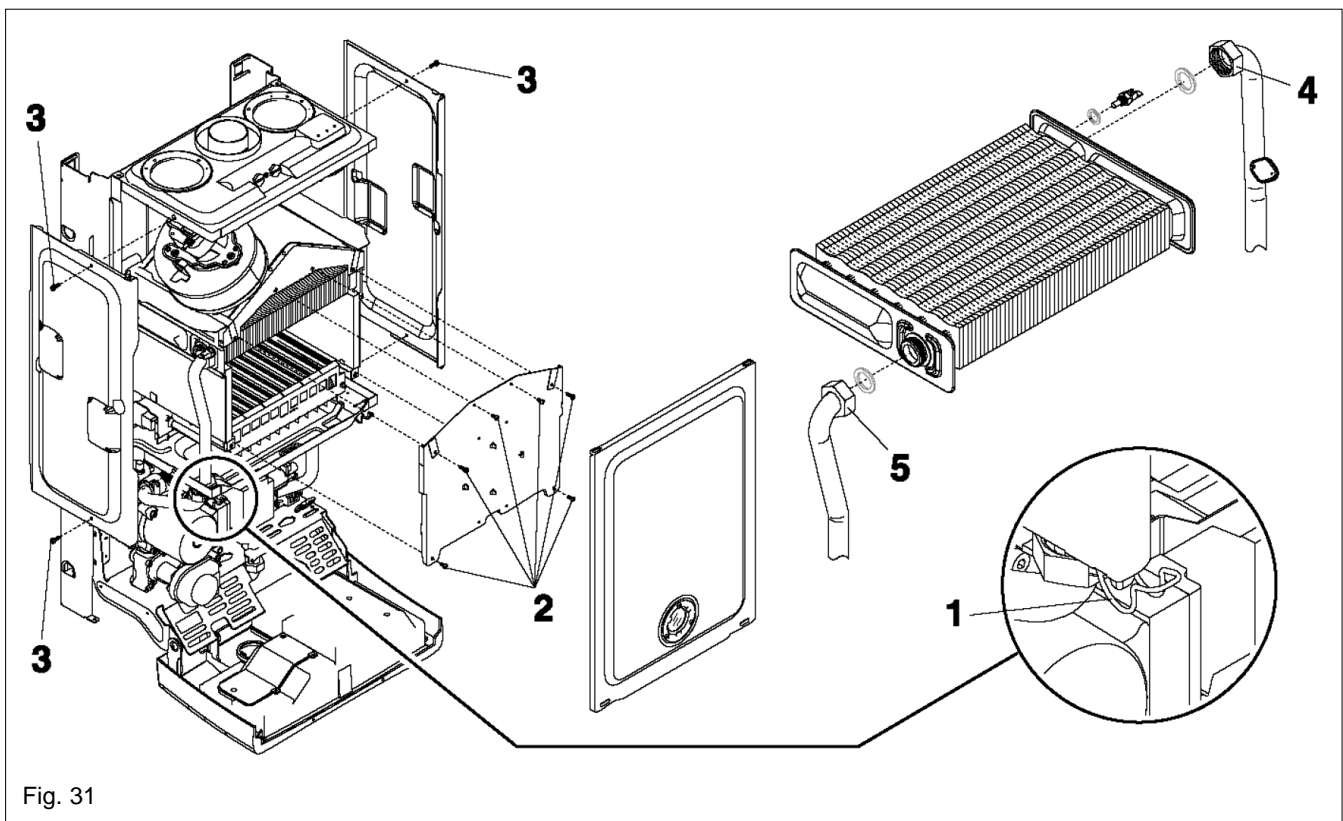

Fig. 31
6.17 MAIN HEAT EXCHANGER fig. 31